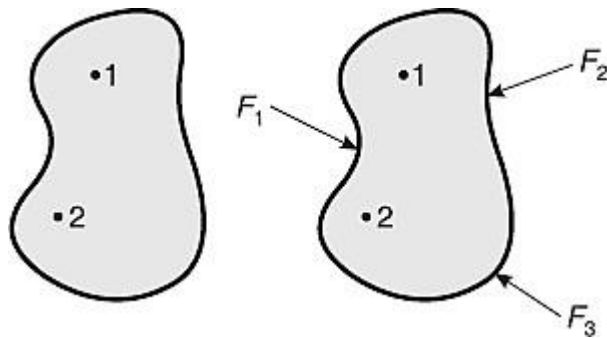

Figure. 1 Rigid body
- **Rigid body:** A rigid body is one in which the positions of the constituent particles do not change under the application of external forces, such as the position of particles shown in Figure 1.